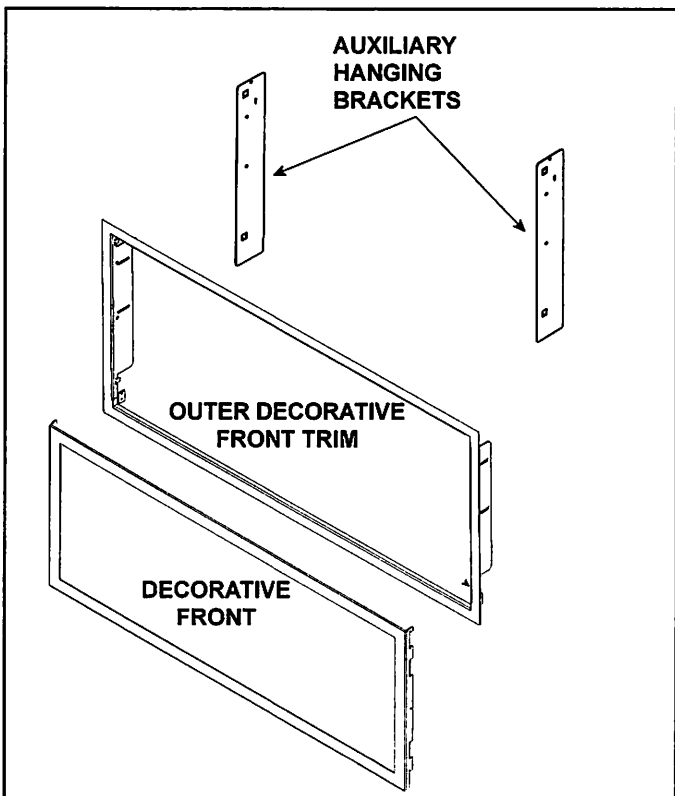
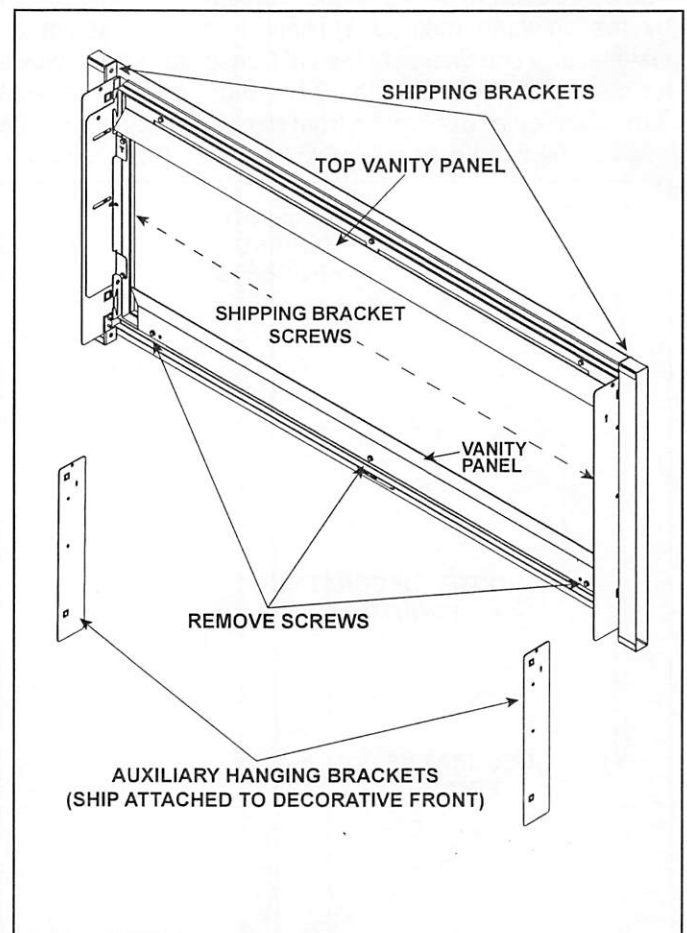

Figure 3. Component Identification
Figure 1. Decorative Front Assembly - Shown as Shipped
4. Shipping brackets and auxiliary hanging brackets are attached to the left and right sides of the decorative front. See Figure 1. Remove the two screws and discard the shipping brackets and screws. Retain auxiliary hanging brackets. Remove inner decorative front and set aside. See Figure 3.
The installation of the CFT decorative front is determined by the finishing method applied during the appliance installation. The design of the CFT decorative front allows for installation with or without the outer decorative front trim. If the outer decorative front trim is not used, then the auxiliary hanging brackets must be used. See Figure 3.
2. Remove the three screws that secure the glass vanity panel to the back of the decorative front. Discard screws. See Figure 1.